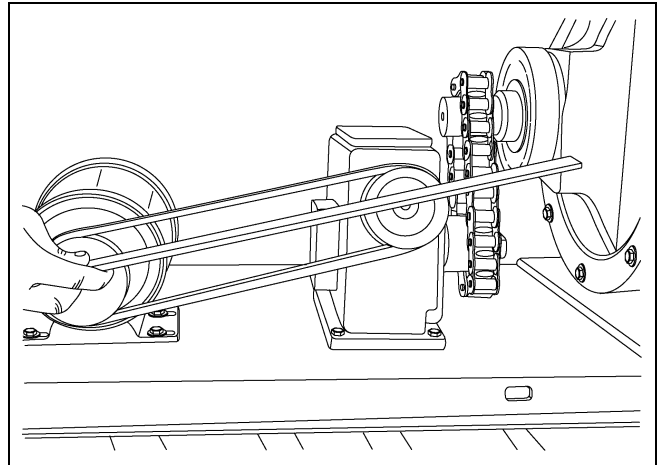

Figure 7I
8. Using four (4) 5/16" x 1" carriage bolts, washers and nuts, mount the motor to the airlock deck. Place the 3-1/4" O.D. A-Groove pulley on to the motor shaft and align to pulley on reducer. (See Figure 7I.)